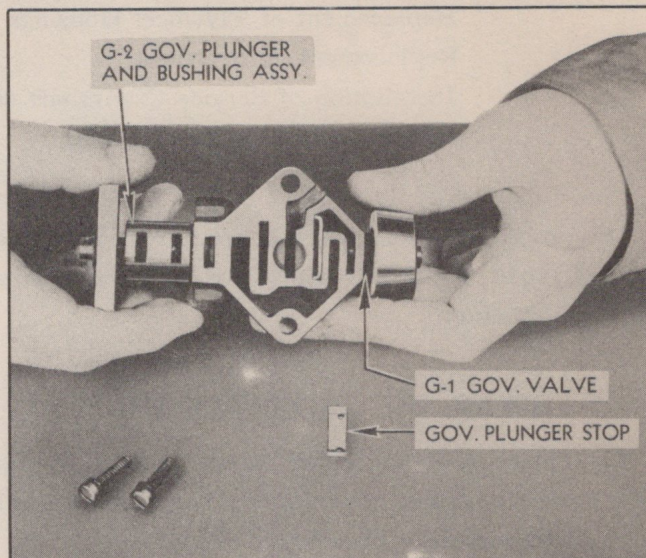

Fig. 214—Installing G-2 Governor Plunger and Bushing
4. Install new G-2 plunger and bushing assembly with slot in bushing for governor plunger stop up (Fig. 214).